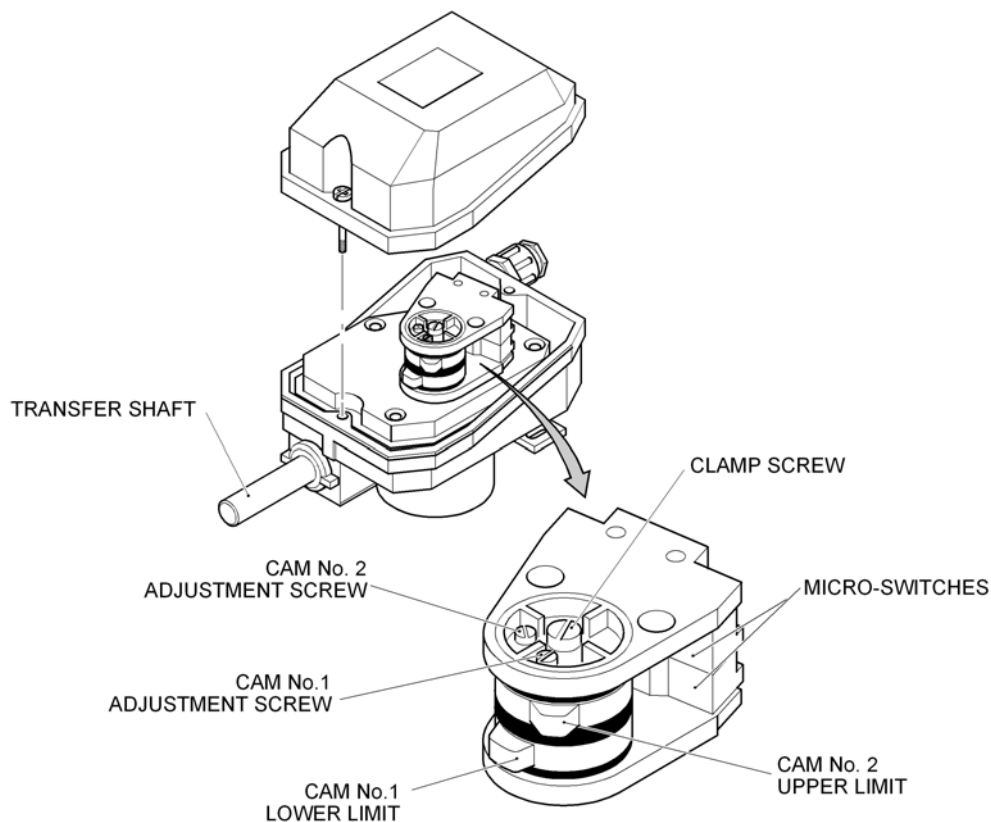

Figure 17 – Setting the Upper/Lower Limit Switch – Rotary Type
- Remove the lid from the Rotary limit and loosen the central clamp screw (see Figure 17).